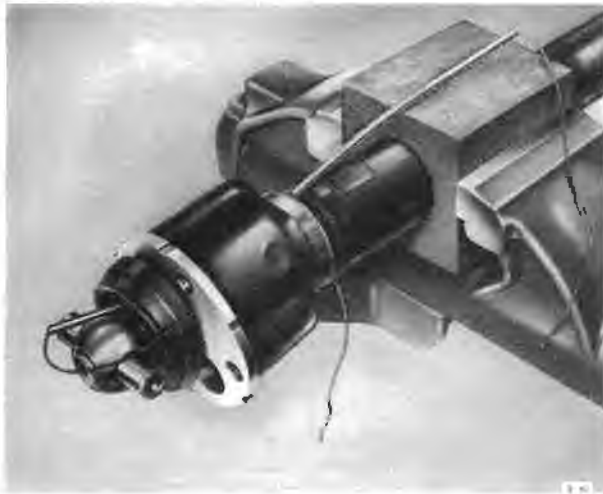

Fig. F9 Method of passing the cord through the tube (second position)
- (vii) Pass the tube between the sealing boot and the propeller shaft, then pass the cord through the tube to form a loop around the sealing boot as shown in Figure F9. Remove the tube.